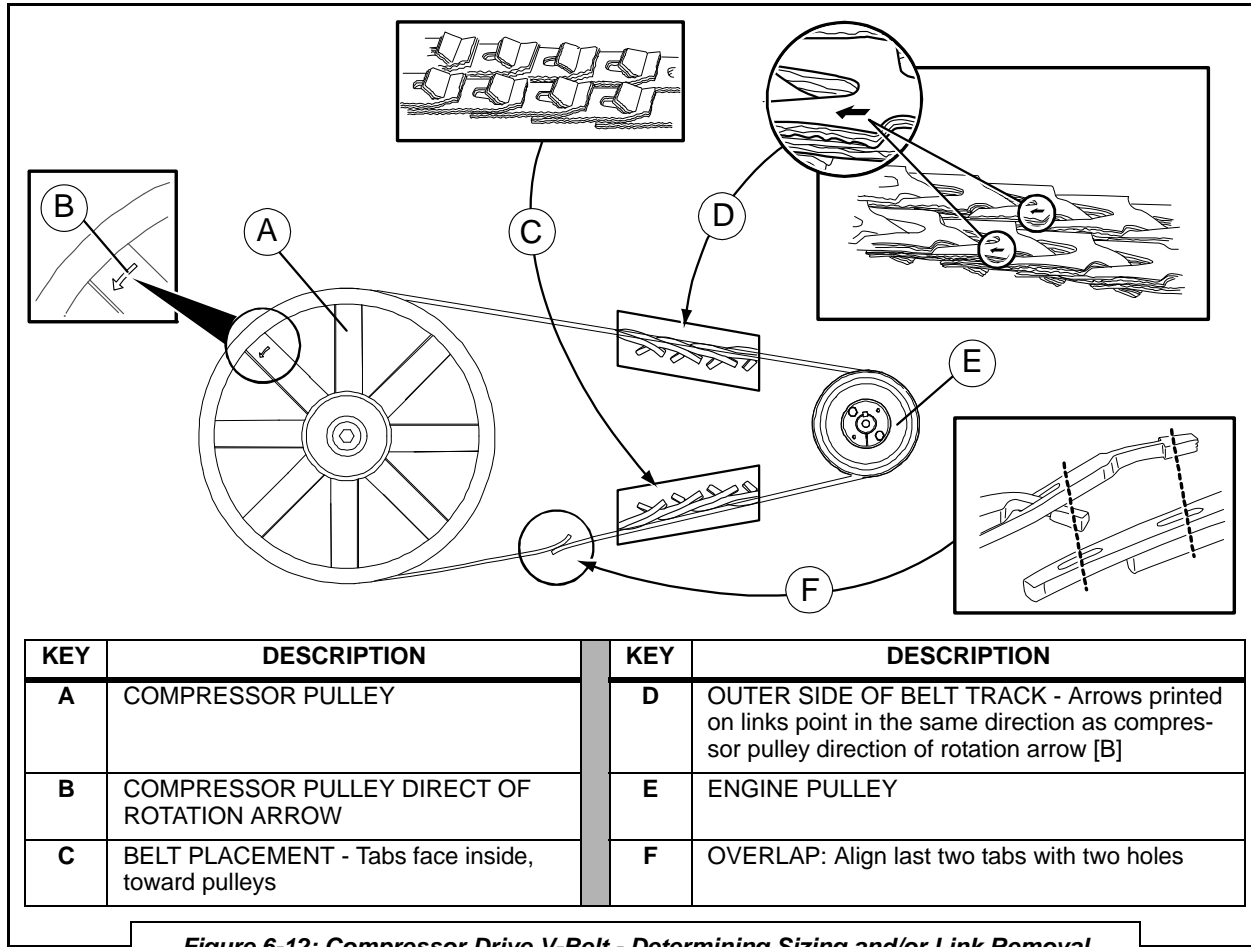

Figure 6-12: Compressor Drive V-Belt - Determining Sizing and/or Link Removal
When sizing a new compressor drive belt, first remove the worn belt as explained in **Section 6.5.7.3**, Step #3 through Step # 5. Then consult **Figures 6-12** and the following procedure:
1. Wrap new belt as shown in **Figure 6-12**, and pull it tight around the pulleys. To determine the length, overlap the last two holes of one end of the belt with two tabs of the other end, matching links as shown in [F].
Every tenth link in a poly-link belt is designated with an arrow ([D] in Figure 6-12).
- The belt should be linked as a completed loop prior to setting it onto the pulley tracks. Run belt around the proper belt groove on the engine pulley, taking care that the belt's tabs are facing inward toward the pulley, and the arrows on the belt point in the same direction as the arrow of rotation on the compressor pulley (see **Figure 6-12**, [B] and [D]).